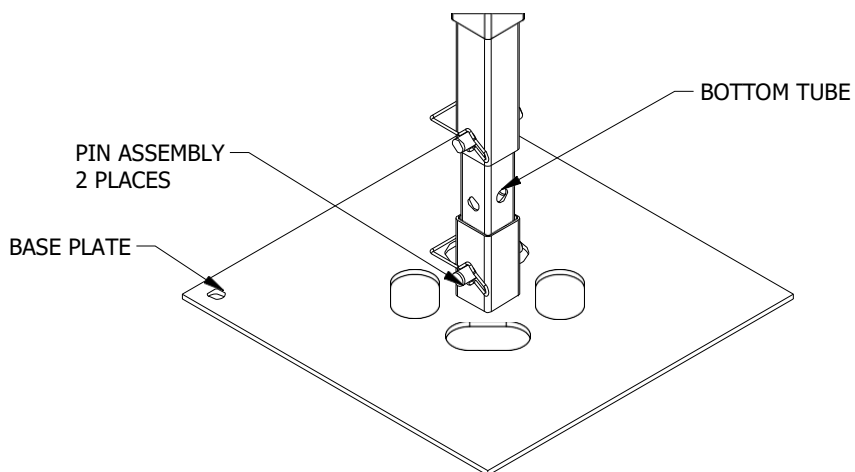

FIGURE 3: Power Adjustable Leg Pin Connections
1. Begin Chassis assembly by having the Assemblers unpack six Power Adjustable Legs. Insert the bottom tube of the leg into the base plate and secure with pin assembly. See Figure 3 below and make sure to expose the four lower holes on the bottom tube.